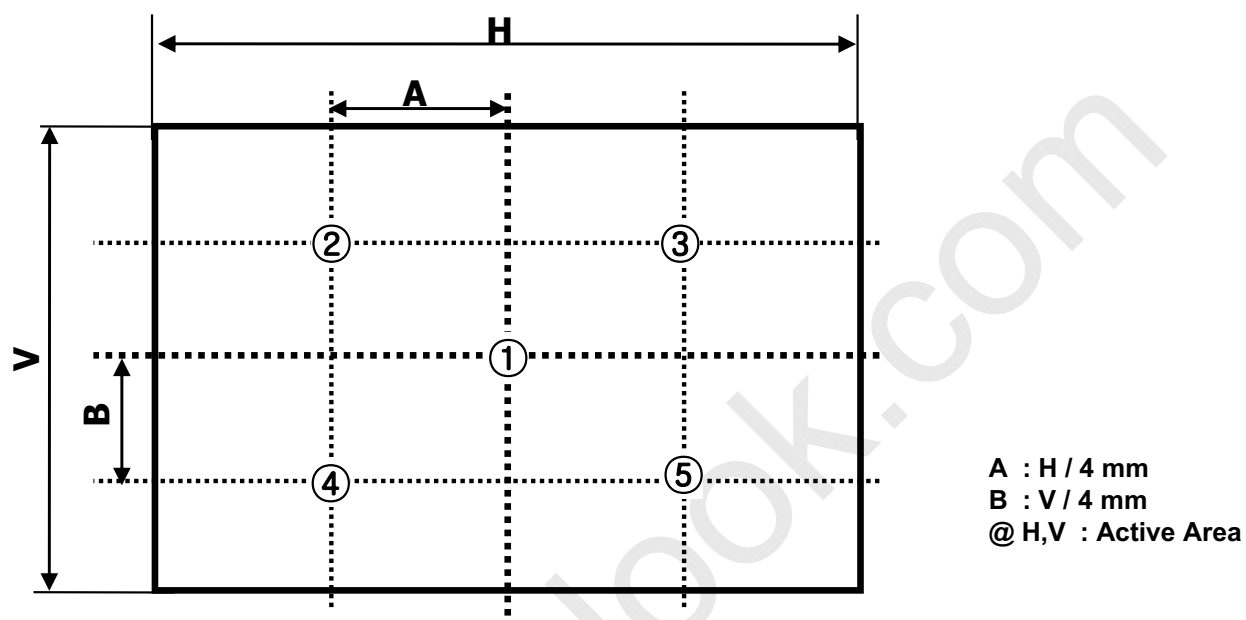

FIG. 2 5 Points for Luminance Measure
2. Surface luminance is determined after the unit has been „ON“ and 1Hour after lighting the backlight in a dark environment at $25 \pm 2^\circ\text{C}$. Surface luminance is the luminance value at center 1-point across the LCD surface 50cm from the surface with all pixels displaying white. For more information see the FIG. 2.
For more information, see the FIG. 2.